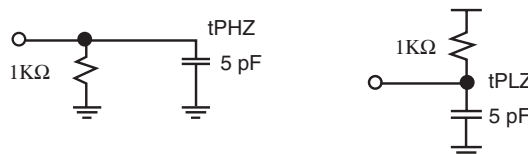

Figure 5: Loads used for t_{PXZ}
a. These loads are used for t_{PXZ} (see Figure 5)